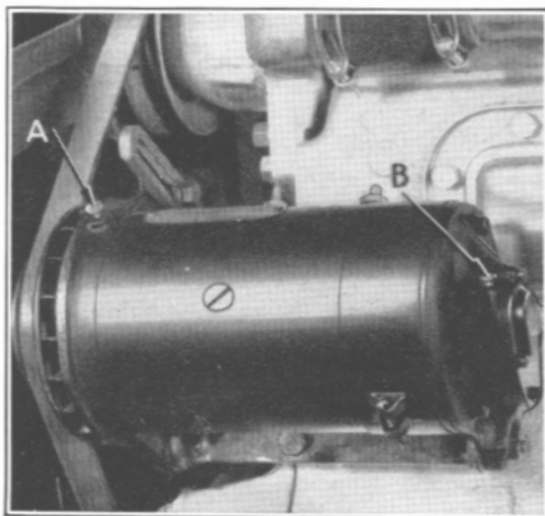

Figure 24
The generators used on all models are of the fully ventilated, high output type with third brush adjustment and voltage regulation. The generator is driven from the crankshaft through a "V" type, adjustable fan belt which also operates the water pump. See Fig. 24.
LUBRICATION—The front and rear armature bearings should be lubricated every 2,000 miles by applying a few drops of light engine oil to oilers (A) and (B), Fig. 24. *Avoid over-oiling.*